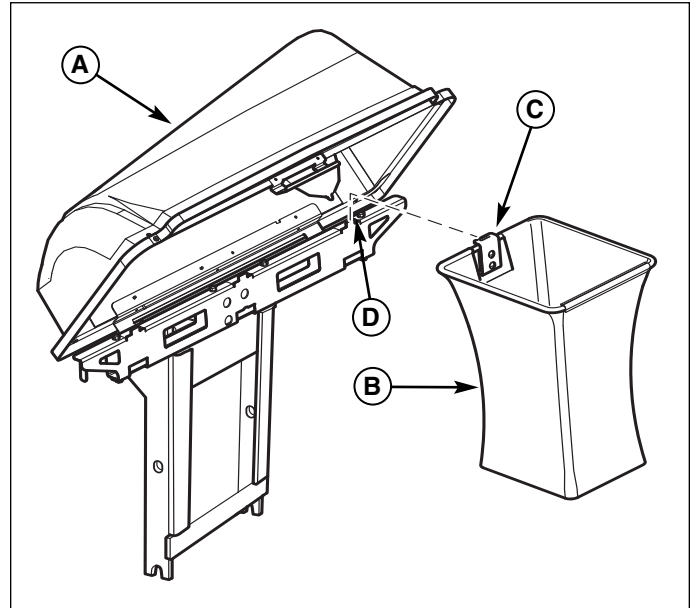

**Figure 9. Install Cover Assembly**
1. Attach the collector cover (A, Figure 9) to bag and cover support (B) using hinge pivots (C).
2. Secure the collector cover using cover hinge pins (D) and hair pins (E).